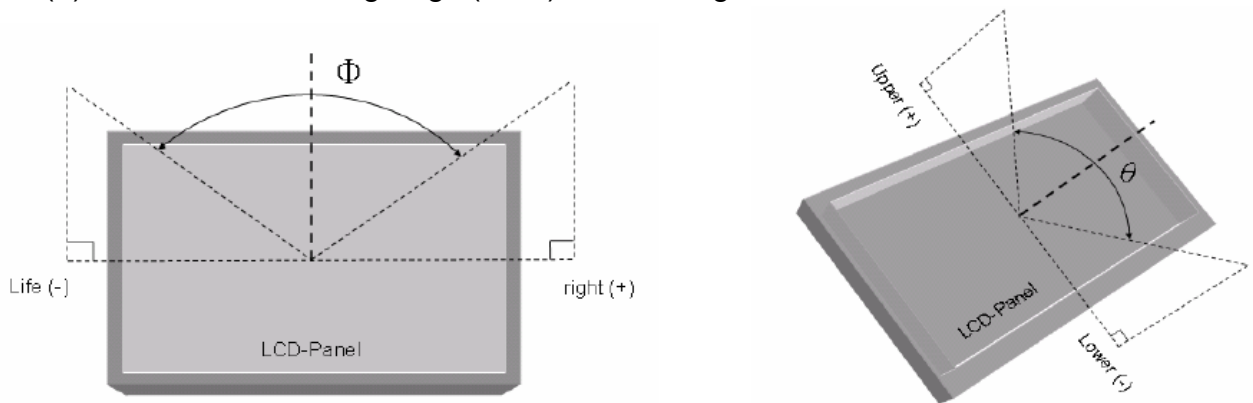

Fig9-2 Definition of Viewing Angle
(4) Definition of Viewing Angle(Θ , Φ), refer to Fig9-2 as below :